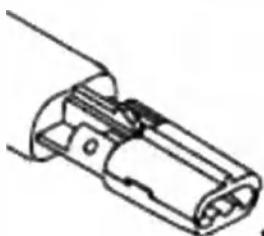
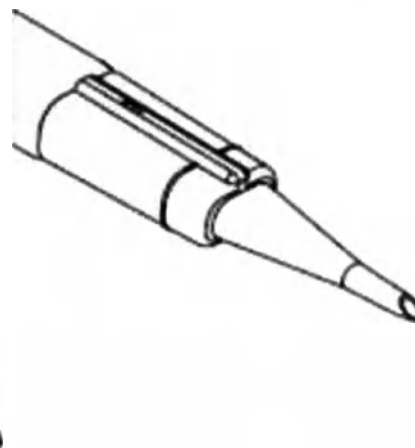

Fig. 8.
Fig. 9.
6. Align the key on the lens cap with the slot in the transition cell (**Fig. 8**). Push together with a firm motion until the tube with the cap and transition cell snap together (**Fig. 9**). Viscoelastic material will flow and fill both the lens chamber and the transition cell. **Once assembled, pull on the transition cell to verify that it cannot be separated from the tube.**